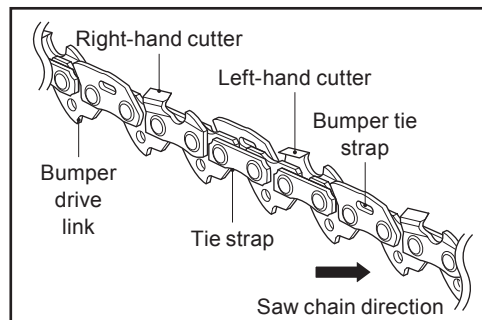

Fig. 47
2. The height difference between the tooth and the ridge is the cutting depth. When sharpening the saw chain (20) you have to consider the following points (Fig. 47).